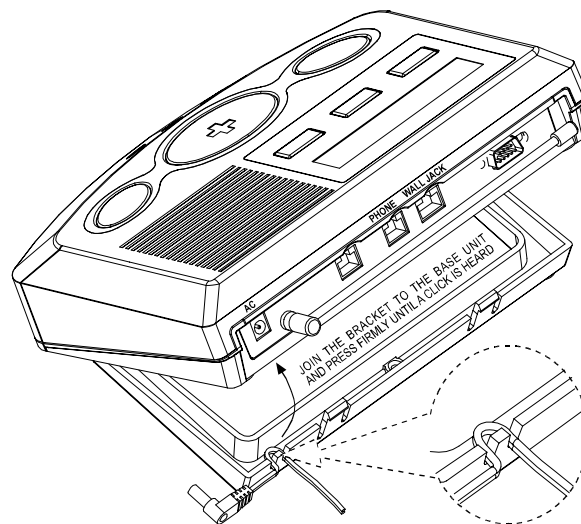

Figure 5a – Looping the Power Cord
Plug in the Base Unit (Figures 5a/b)
1. Loop the power cord around the bracket segment as shown in figure 5a.